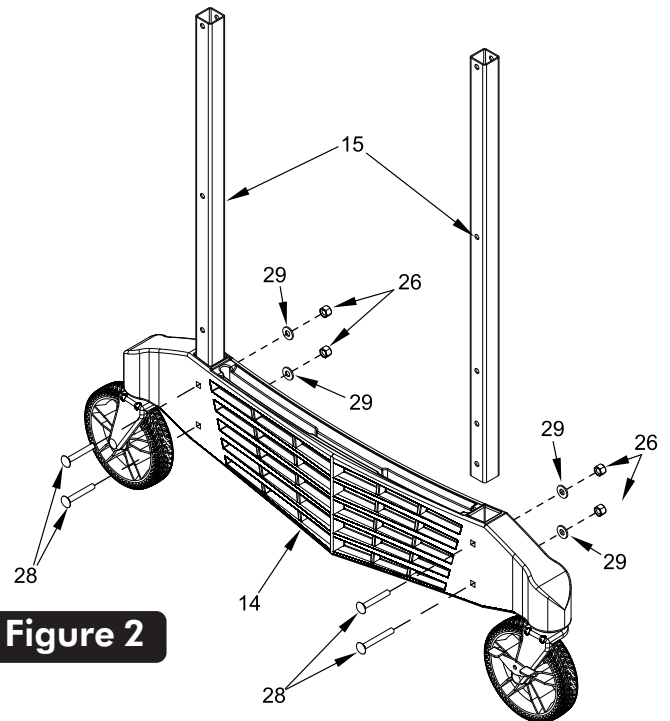

Figure 2
3. Attach two Upright Tubes #15 to each Caster Beam #14 using two Carriage Bolts #28, two washers #29 and two locknuts #26 in each tube. See Figure 2. **Tighten nuts but do not overtighten, cracking the plastic.**